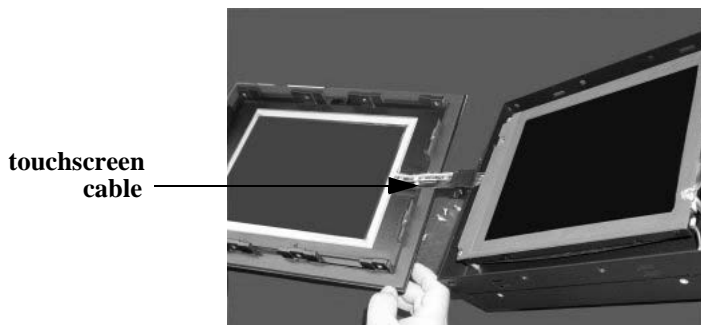

Figure 2 Disassembling the Touchscreen
6. Carefully lift the touchscreen and lay it aside, as shown in *Figure 2*.
7. Disconnect the touchscreen cable shown in *Figure 2*.
Important The touchscreen cable should be threaded under the display unit and up through the opening at the left side of the display unit (when the PowerStation is on its back with the inverter on the right side of the unit). See *Figure 2* for the proper placement of the touchscreen cable.